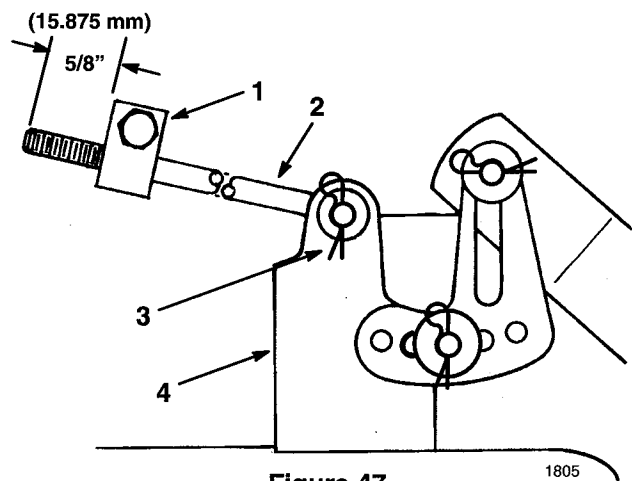

Figure 47
6. Measure the length of the rod extending out the front of the adjusting block on the sides of the chassis (Fig. 47). If the rod length is not 5/8" (15.875 mm), remove the hair pin cotter and washer from the end of the rod (Fig. 47), and turn the rod until the 5/8" (15.875 mm) dimension is obtained. Then install the end of the rod into the hole in the mower mount and secure in place with washer and hair pin cotter. Repeat this procedure on the opposite side of the mower.